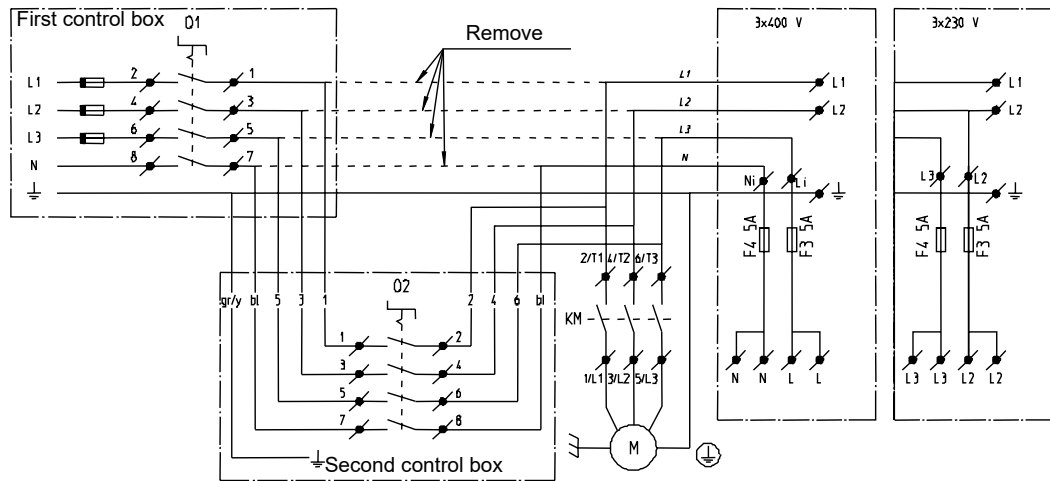

Figure 44: Installation diagram for the second control box
8. Remove the three cores between the main switch and the motor relay, see Figure 44: Installation diagram for the second control box on page 55.